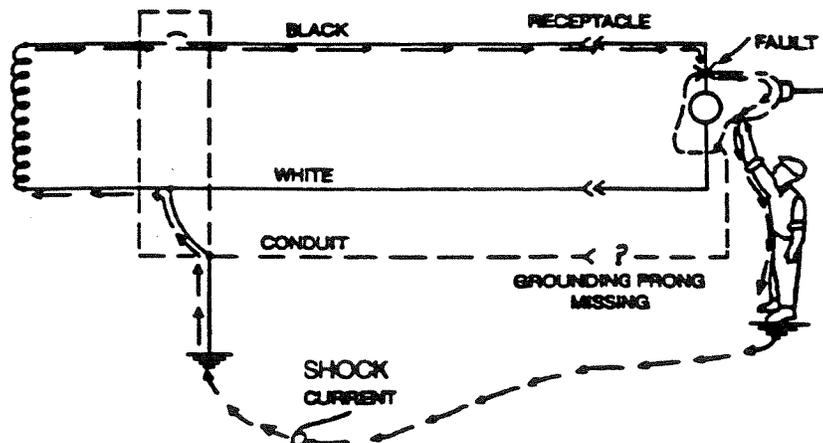

Figure 14: SHOCK FROM IMPROPERLY GROUNDED TOOL
If the ground-fault path is not properly installed, it may have such high resistance that it does not allow a sufficiently large amount of current to flow. Or, if the grounding conductor continuity has been lost (as when the grounding prong has been broken or cut off the plug), no fault current will flow. In these cases, the circuit breaker will not trip out, the case of the tool will be energized, and *persons touching the tool may be shocked* as shown in Figure 14.
- Many portable hand tools, such as electric drills, are now manufactured with non-metallic cases. If approved, we refer to such tools as *double insulated*. Although this design method assists in reducing the risk from grounding deficiencies (as shown in Figure 14), a shock hazard can still exist. In many cases, persons must use such electrical equipment where there is considerable moisture or wetness. Although the person is *insulated* from the electrical wiring and components, there is still the possibility that water can enter the tool housing. Ordinary water is a conductor of electricity. Therefore, if the water contacts energized parts, a path will be provided from inside the housing to the outside, bypassing the *double insulation*. When a person holding a hand tool under these conditions touches another conductive surface in their work environment, an electric shock will result.